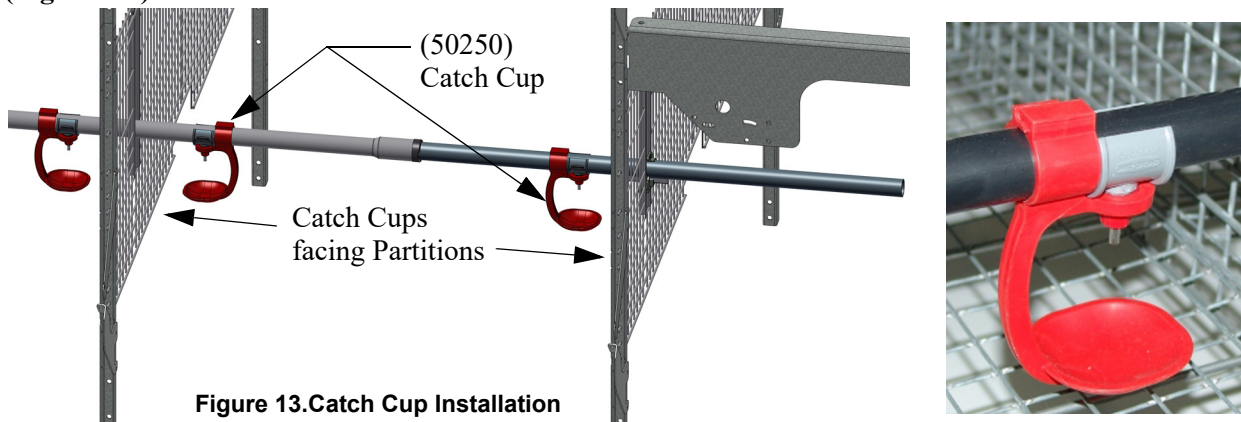

Figure 13.Catch Cup Installation
1. Attach the Catch Cups (50250) by snapping them over the Nipples. Catch Cups face the Partitions as shown (Figure 13.)